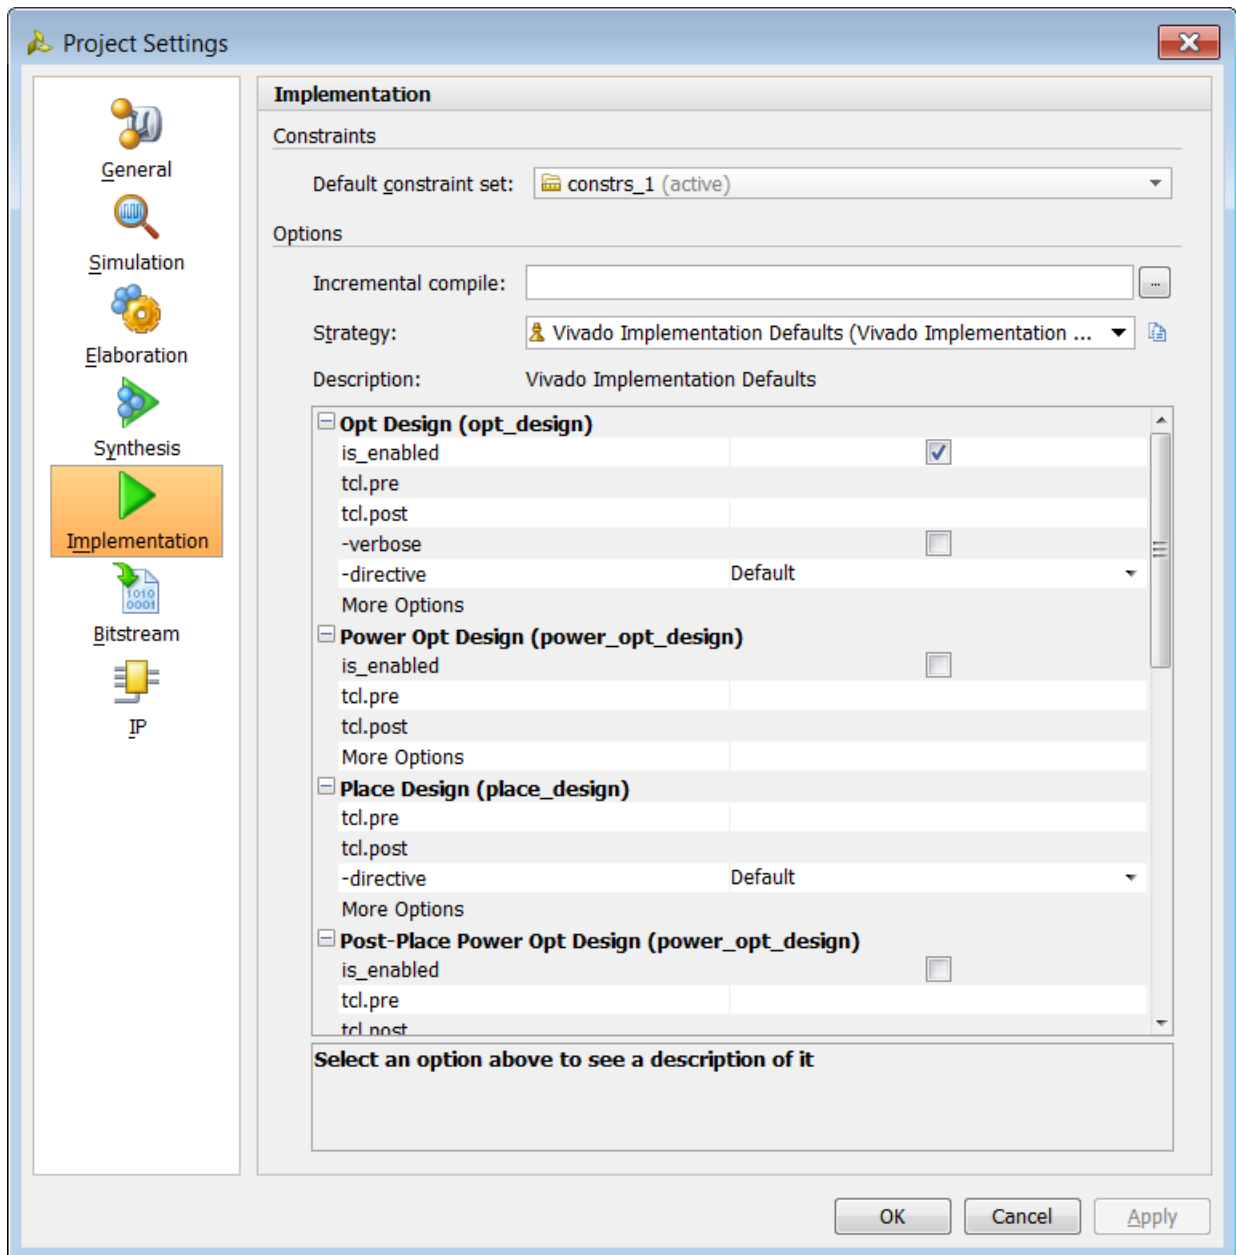

Figure 22: Implementation Settings
- After reviewing the various synthesis options, select the **Implementation** button on the left side of the Project Settings dialog box, as shown in Figure 22.